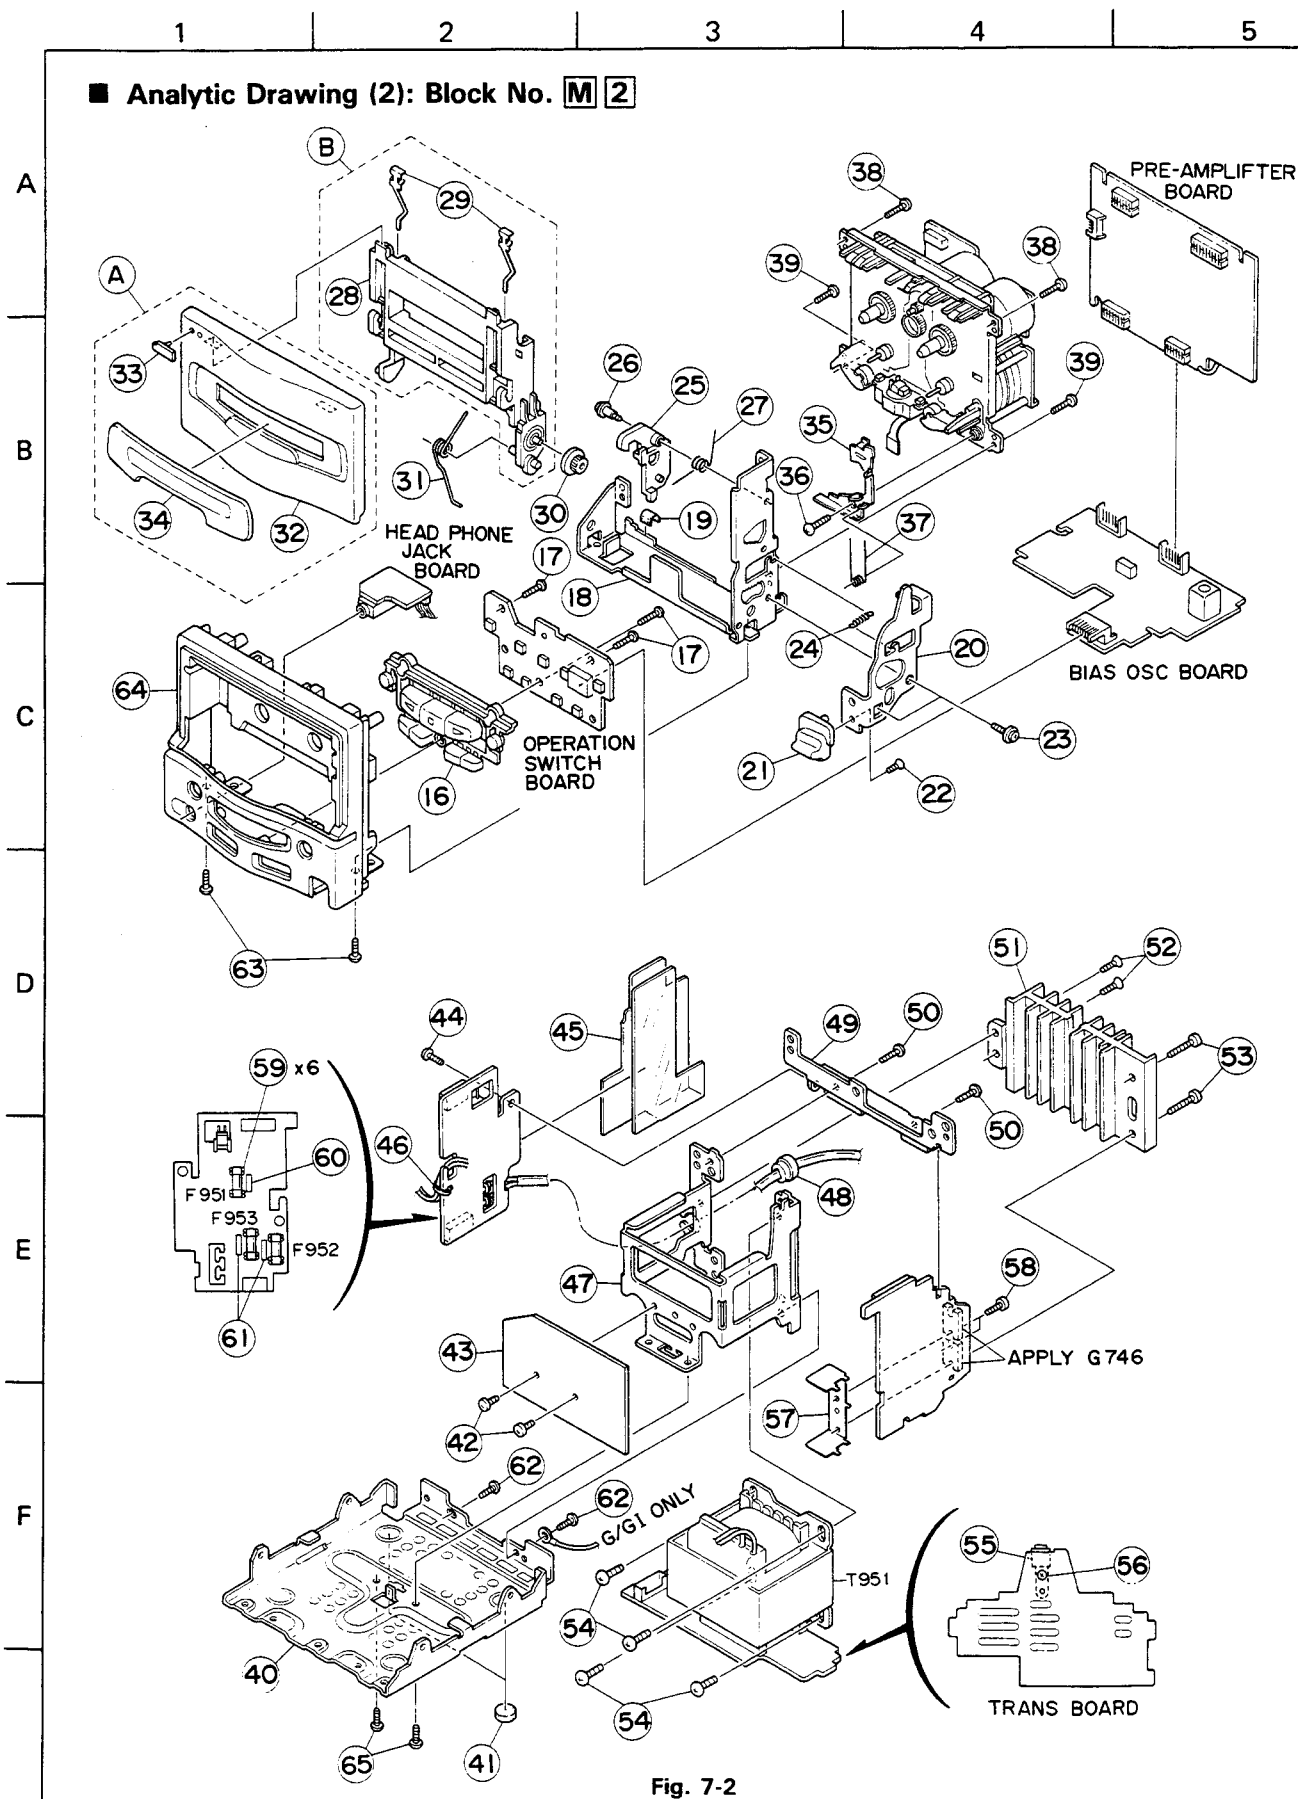

Fig. 7-2
• Cassette Mechanism (Fig. 7-2, 3)
• Headphone Jack P.C. Board (Fig. 7-2, 3)
• Operation Key Switch P.C. Board and Front Panel (Fig. 7-2, 4)
1. Remove the two screws (63) retaining the cassette holder bracket from the lower side of the front panel.
6. Remove the three screws (17) retaining the operation key switch P.C. board, and draw out the P.C. board.
• Power Supply Transformer (Fig. 7-2, 5~7)
1. Remove the four screws (65) \times 2 and (62) \times 2 retaining the bottom cover and power supply unit.
2. Remove the four screws (52) \times 2 and (53) \times 2 retaining the heat sink from the transformer bracket and dismount the power amplifier P.C. board.
3. Remove the one screw (44) retaining the fuse P.C. board from the transformer bracket.
8. Remove the four screws (54) retaining the power supply transformer from the transformer bracket.